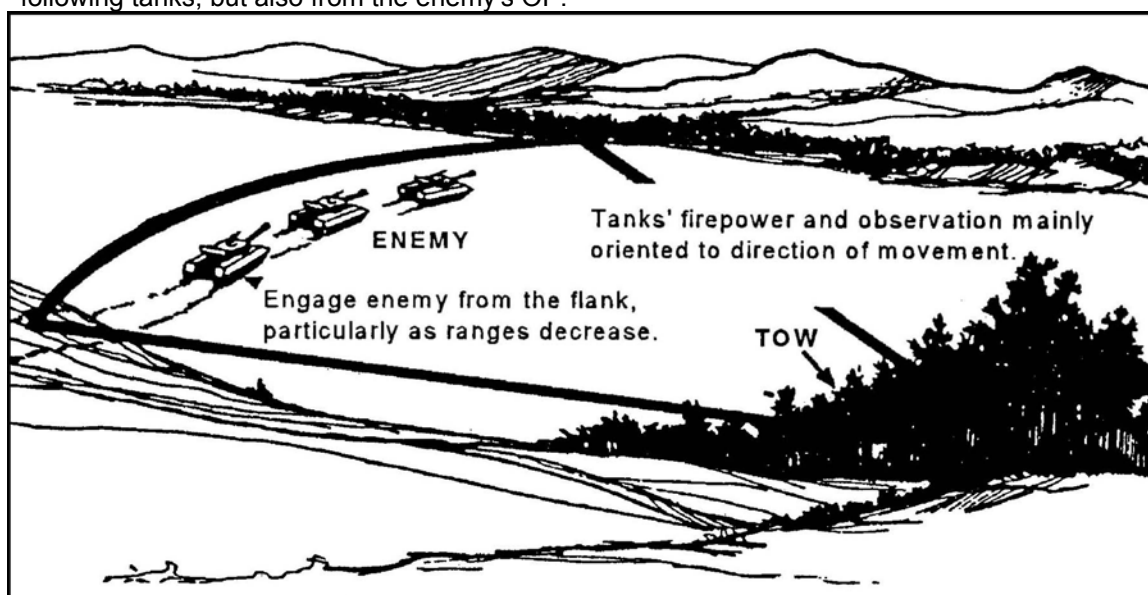

Figure 5. Provide for flank engagement.
4. Provide for flank engagement. Avoid TOW frontal fire against tanks, since the TOW crew is vulnerable, especially at shorter ranges. The firepower and observation of an advancing enemy tank are oriented to the front. Therefore, detecting and tracing a missile launched from its flank is difficult (Figure 5). However, a trailing enemy tank may see the launch signature or crew movement, and stalk or destroy the weapon from the rear. Thus, in addition to firing from the flank, the crew must site the weapon so that it is in defilade when viewed from the direction of the enemy. Also, the crew must put something between itself and the tanks--something the tanks are unlikely to shoot at. This could include a parapet, a wall, or natural cover. Flank concealment is necessary, but flank defilade, which provides cover from fire, is preferred. Concealment of flash is also essential, not only from the following tanks, but also from the enemy's OP.